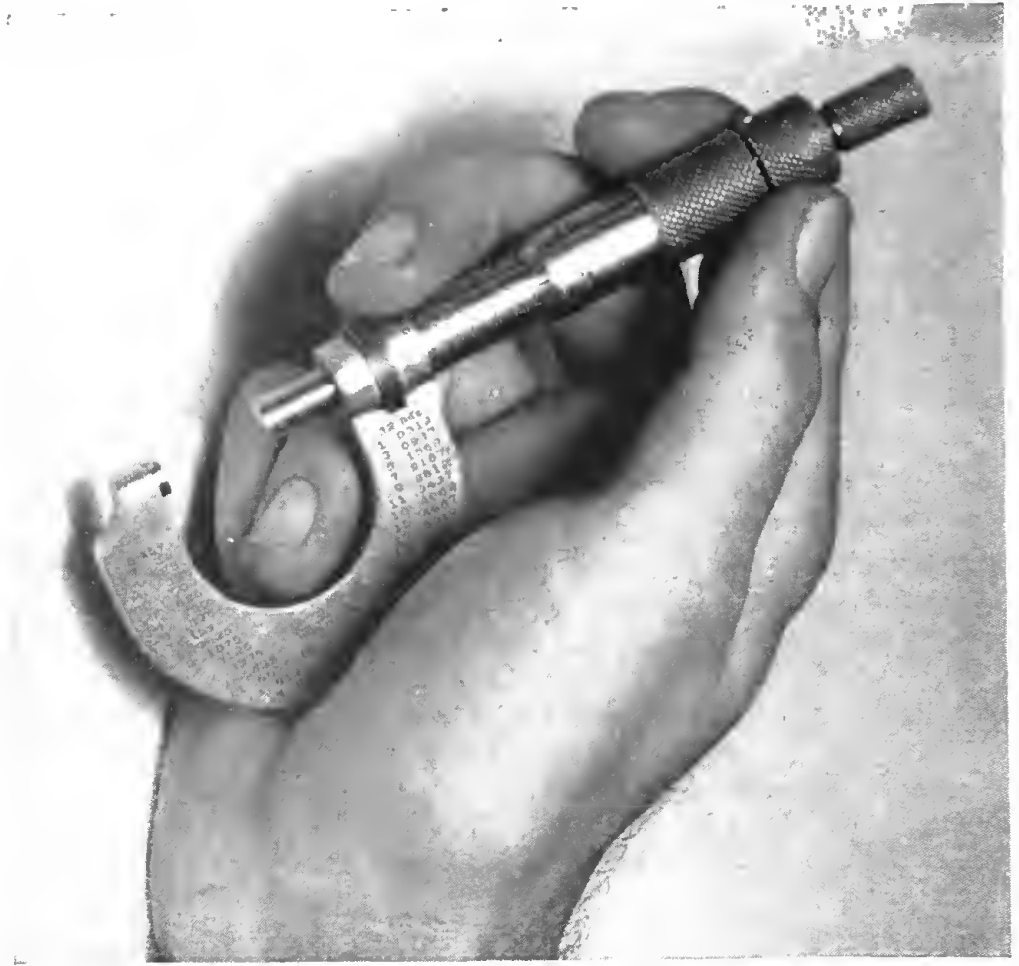

Figure 77. Correct way to hold a small micrometer.
f. USE AND CARE. (1) The first step in using a micrometer is holding it correctly. It should be held as shown in figure 77. This leaves one hand free to hold the stock that is being measured. On large work the micrometer is held in both hands. The thumb and first finger are used to turn the thimble until the anvil and spindle just touch the stock. Only a very slight tension should be applied, and it should be the same every time the micrometer is used. It is rather easy to spring a micrometer $\frac{1}{1,000}$ inch and thereby get an inaccurate reading. Many micrometers have a ratchet on the end of the thimble which will slip when the tension becomes great enough. This is an aid to the beginner since it prevents overtightening. The spindle of the micrometer should always